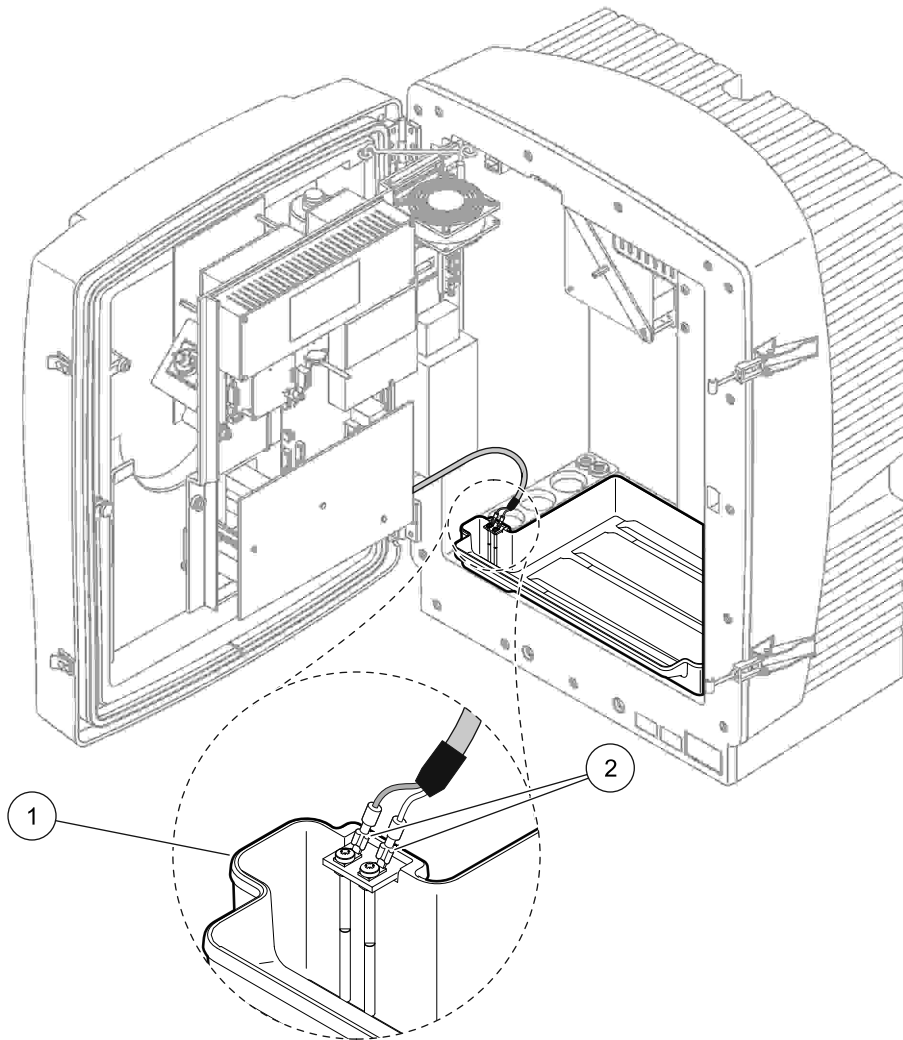

Figure 12 Connect the humidity sensor
3. Connect the humidity sensor wires to the terminal screws on the collecting tray (Figure 12).